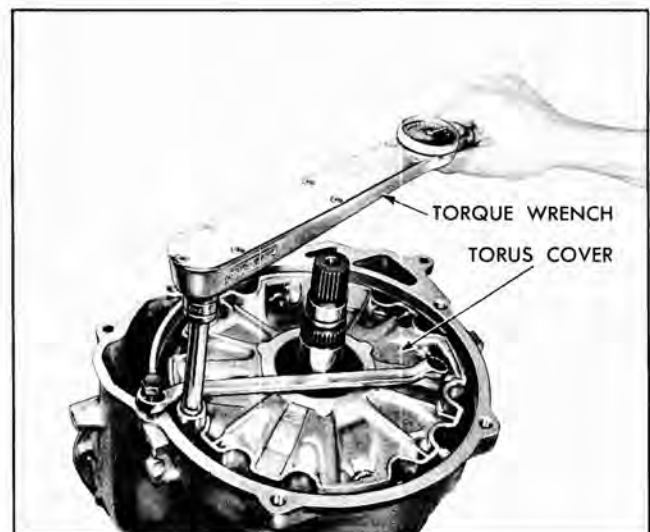

Fig. 130 Torquing Torus Cover Bolts
17. Install box head wrench on case, as a tool, (Fig. 130), and install 12 torus cover to drive torus attach-